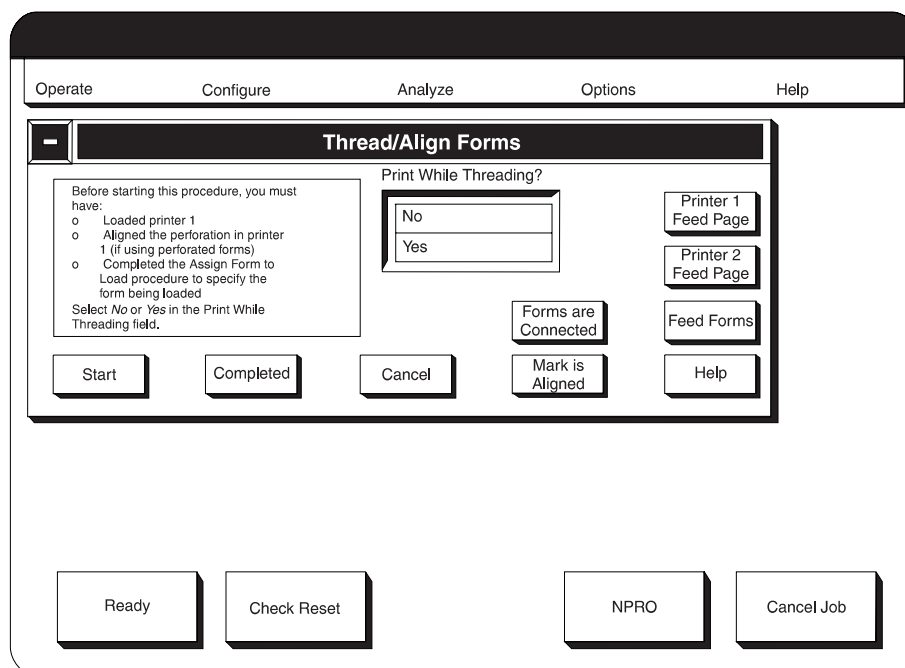

Figure 26. Main Thread/Align Forms Window
3. **SELECT** the **OK** pushbutton on the window. The main **Thread/Align Forms** procedure window (Figure 26 on page 180) appears.